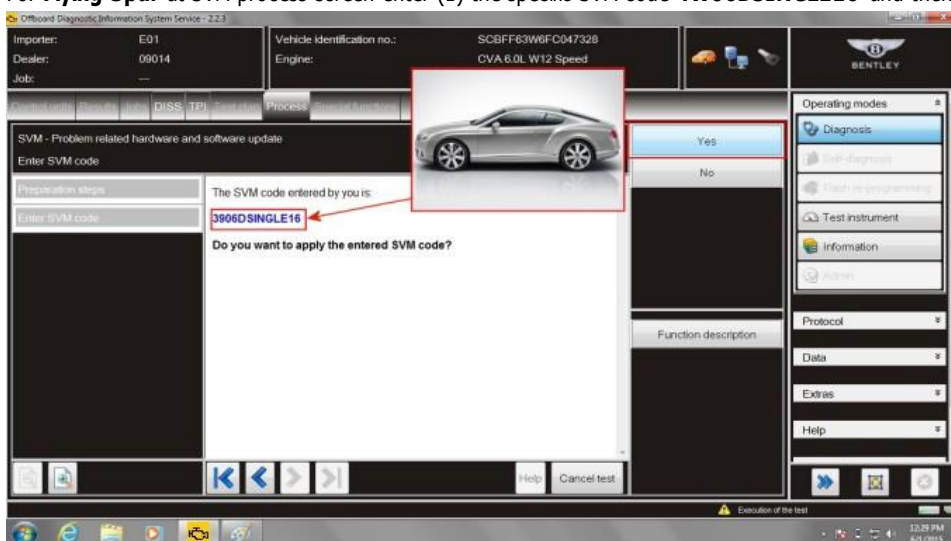

Figure 3
11. Check you have entered the correct SVM code for the vehicle type and select Yes (see Figure 3 & 3a)